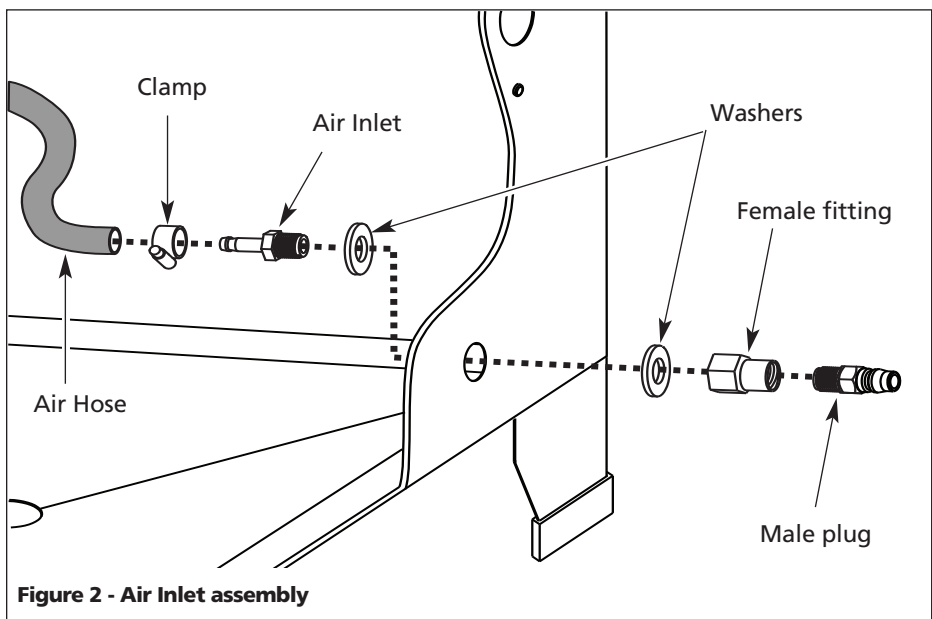

Figure 2 - Air Inlet assembly
- Place gun and hose assemblies into cabinet, feeding diptube under the wire mesh parts tray. Place a washer on threaded end of cabinet inlet fitting, then push fitting through the hole on the lower right side of cabinet. Place other washer on the protruding end of the fitting (see Figure 2).
- Apply teflon tape to the threads of the inlet fitting to reduce the possibility of air leaks. Thread the female fitting onto the protruding threads of the cabinet inlet fitting and tighten securely. Make sure the wrench flats of the female fitting abut the cabinet (see Figure 2).